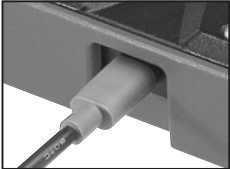

FIG. 1
8.1 CHARGING WIRELESS PRODUCTS – FIG. 1